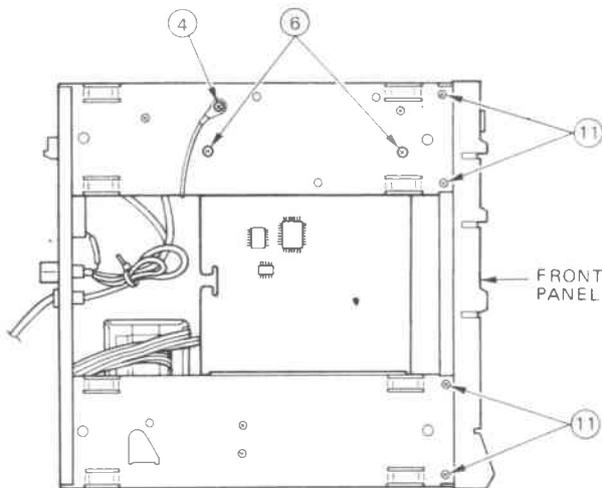

Fig. 2
### 3. Removing the CD Mechanism Ass'y (Fig.2/3)
- 1) Remove screw (4) on the left side and return the earth wire into the main body. (Fig. 2)
### 5. Removing the CD P.C.B. (Fig. 2)
- 3) Remove 8 screws (11). (Figs. 2, 6) The front panel can now be removed. The front P.C.B., cassette P.C.B. and cassette mechanism ass'y are removed together with the front panel.